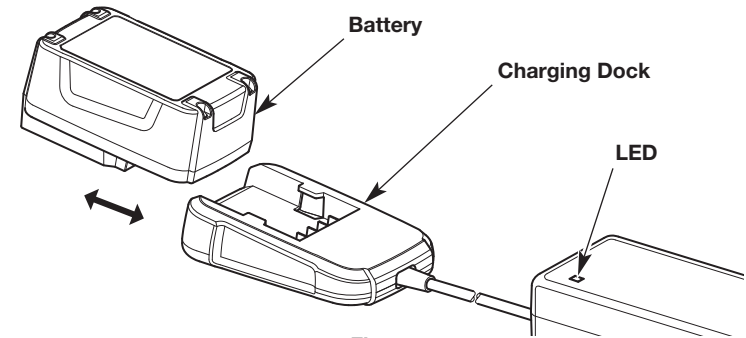

Fig. 7
1. Plug the battery charger into an appropriate power outlet. The LED (Fig. 7) will turn green after a few seconds. If the LED does not illuminate, make sure the battery charger is securely assembled and test the power outlet with another electric device.
2. Insert the battery into the charging dock (Fig. 7). The LED will either stay green, turn red, or blink red.